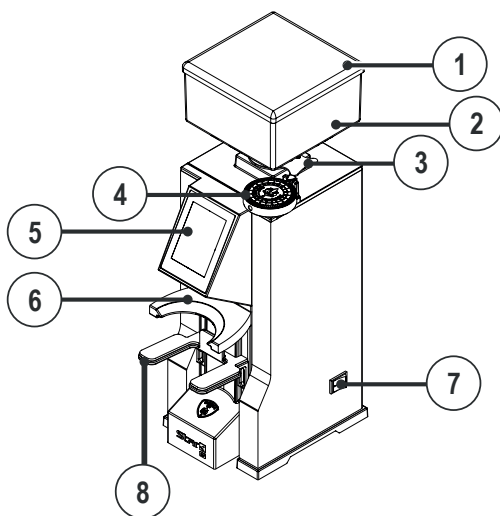
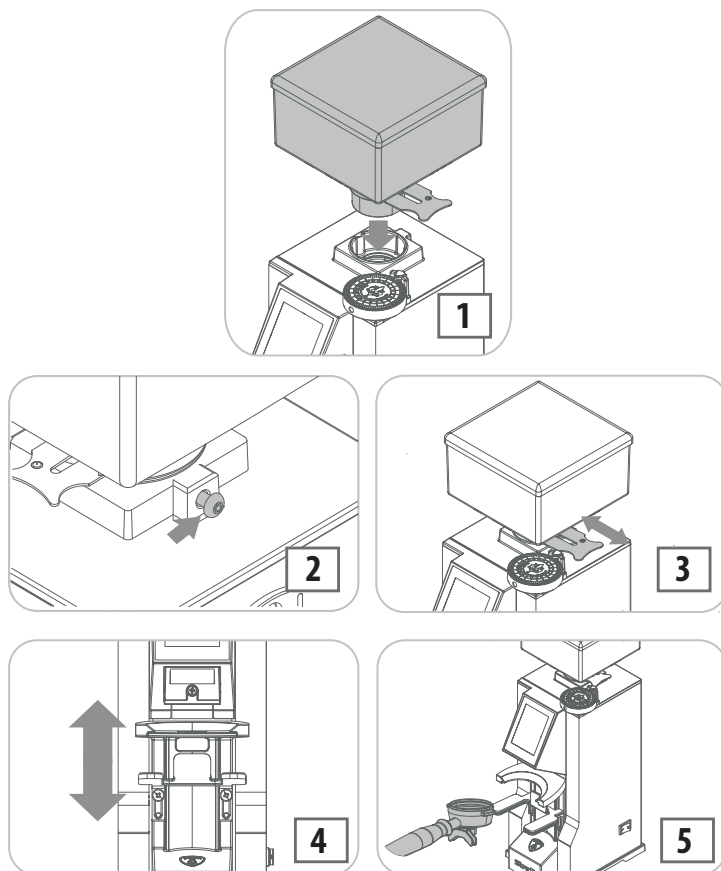

Fig. 5.1 - Description of the appliance
Fig. 7.1 - Preliminary operations
For the appliance parts, see Fig. 5.1.
- Insert the coffee bean container in its seat (1 - Fig. 7.1), positioning it so the hole is aligned with the screw on the back (2 - Fig. 7.1).
- Push the tab to prevent the coffee beans from passing through (3 - Fig. 7.1).
- Loosen the screws (4 - Fig. 7.1) to adjust the height of the portafilter fork. Once the fork is at the required height, tighten the screws again.
- Bring the switch to the ON position (7 - Fig. 5.1).
- Rest the filter holder basket on the fork (5 – Fig. 7.1), making sure the fork is exactly underneath the dispensing nozzle (6 – Fig. 5.1).
- Rest the filter holder basket on the fork(5 - Fig. 7.1), making sure the fork is exactly underneath the dispensing nozzle (6 - Fig 5.1).